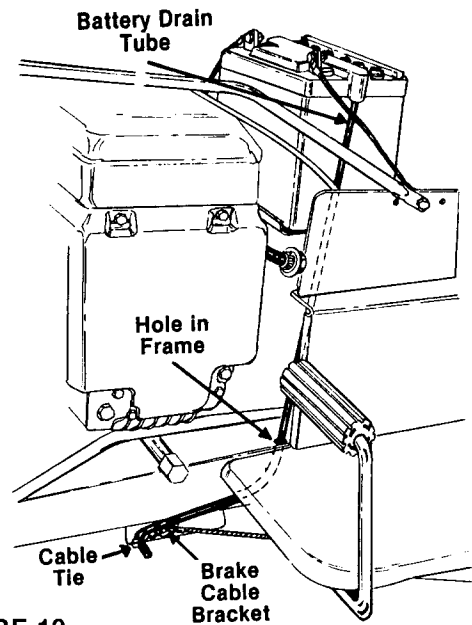

FIGURE 10
6. Route the battery drain tube down through the hole in the frame, then forward to the brake cable bracket. See figure 10.
7. Secure drain tube to brake cable bracket with cable tie (H) as shown in figure 10. Cut off excess end of cable tie.